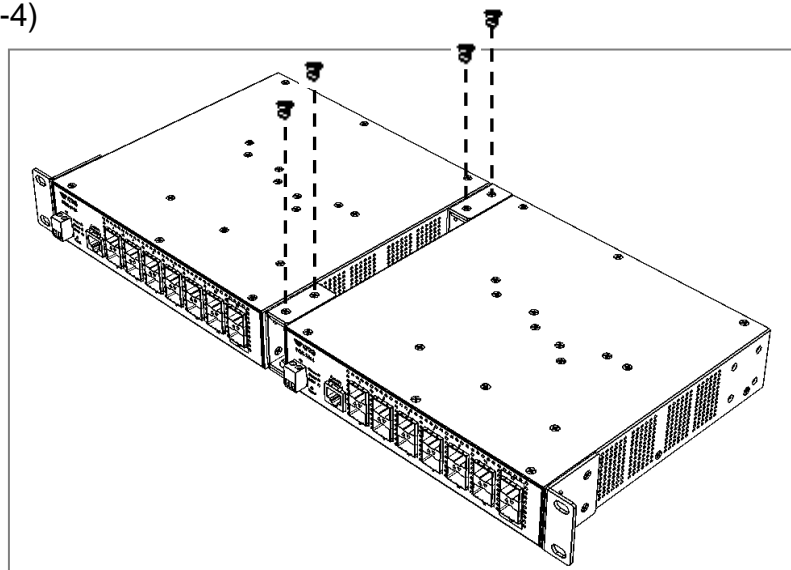

Figure 2-4. Screw the locked switches for two-switch mounting
- Step 4.** Insert the screws provided in the combine kit through the holes into each middle mount. (See Figure 2-4)